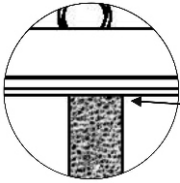
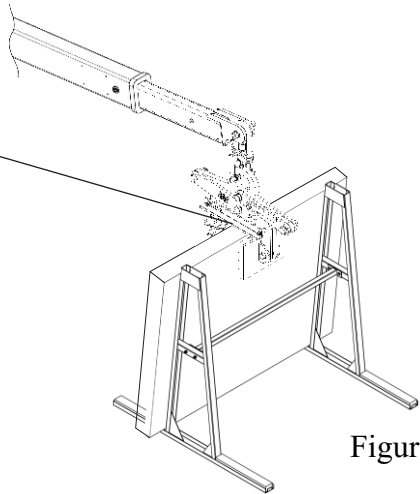

Figure 2.3
Figure 2.2
- Lowering the clamp to allow the slab fully inserted into the opening of the clamp (Figure 2.2), and the slab shall be in between two clamp plates and the top edge of the slab to touch the stopper (Figure 2.3).